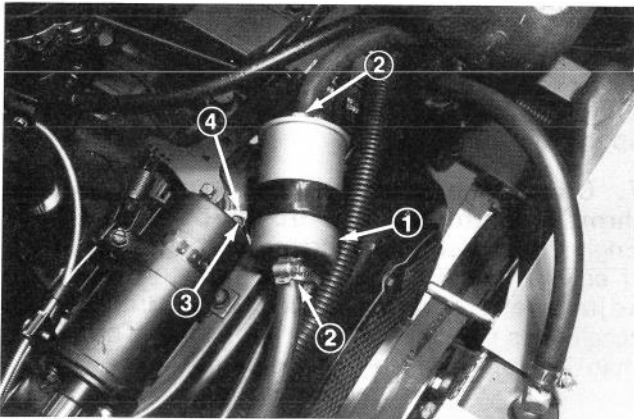

Figure 65
1. Clamp both fuel lines that connect to the fuel filter (Fig. 65) so gasoline cannot drain when lines are removed.
2. Loosen the hose clamps (Fig. 65) at both ends of the filter and pull fuel lines off filter.
3. Remove capscrew and lockwasher holding filter clamp to engine (Fig. 65). Slide filter out of clamp.